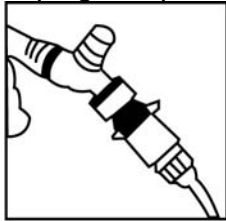
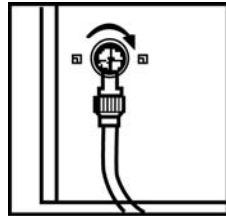
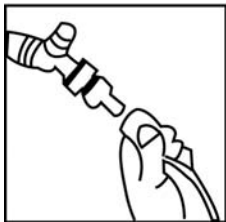

Fig.1
Fig.2
Fig.3
- a. Water line supply - Use the provided water hose (17) to connect to your household water supply (Fig. 1). If assistance is required, please contact a certified plumber. Connect the water hose connector to a water faucet. Place the other end of the water hose into the water line connector (11) (Fig. 2) at the back of the unit. To disconnect the water hose connector from the water spigot, first make sure the water line is turned off, then simply pull back the release washer of the connector and pull apart (Fig. 3). To release the water line from the unit, simply unscrew the water hose on water line plug and pull the hose out (Fig. 4)